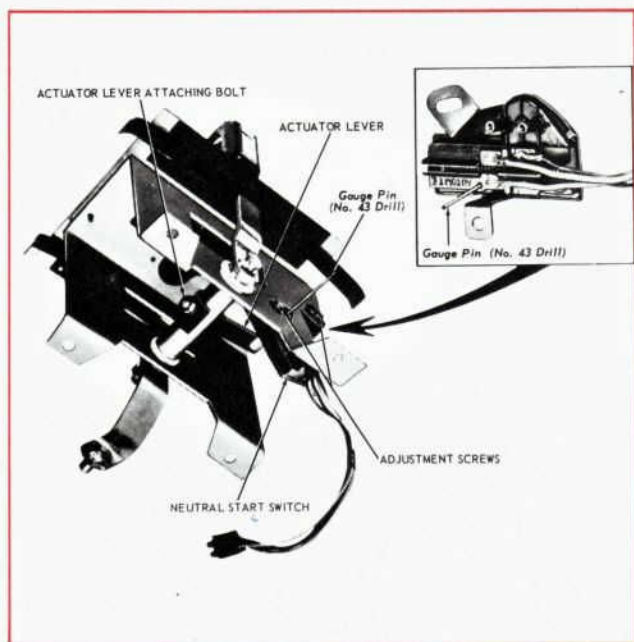

Figure 1—Typical Neutral Start Switch Adjustment
3. Loosen the two combination starter neutral and back-up light switch attaching screws (Fig. 1).